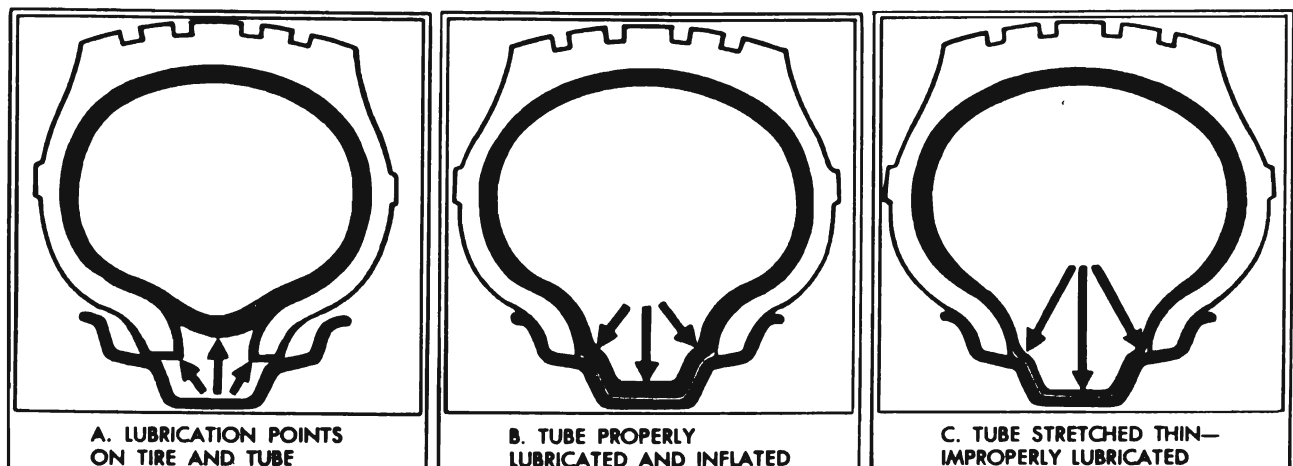

Figure 6-29—Lubrication and Inflation of Tube
5. Make solution using water with tube mounting compound or prepared liquid tire soap, and work it into a heavy suds. With a cloth or sponge, swab thoroughly all around the base of the tube, between the tube and beads of tire and on the face of the beads. See figure 6-29, view A. *Do not use oil or grease.*
6. The soap acts as a lubricant and reduces the friction as the tube passes over the beads down into the well of the rim when inflated. If tube and tire are not properly lubricated, friction will prevent tube from sliding into the well of rim, consequently the tube will be stretched thin in this area when inflated. See figure 6-29, views B and C.